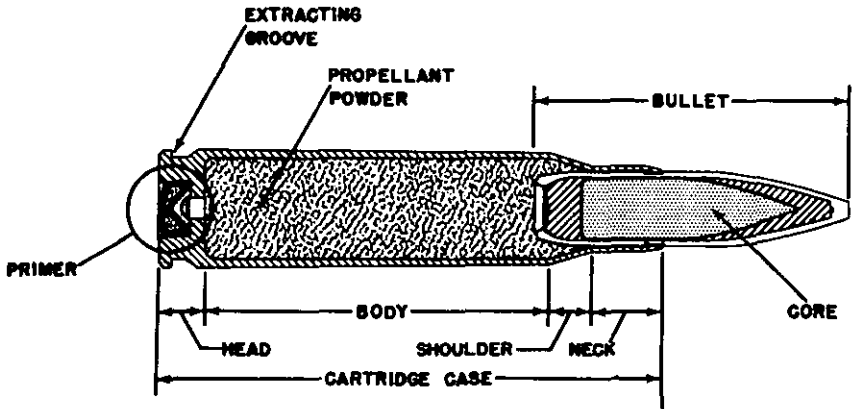

Figure 56. Parts of a cartridge.
a. Figure 56 shows the parts of a typical cartridge.